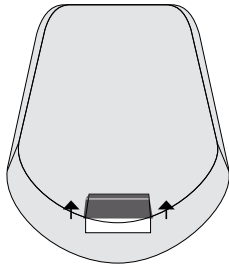
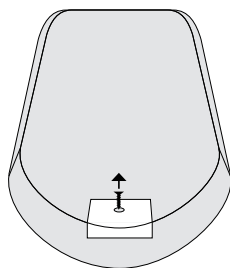
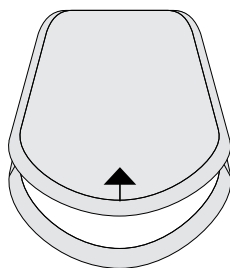

Fig. No. 49
Fig. No. 50
Fig. No. 51
Remove the small blue lid located on the front side of the enclosure by pulling the lid up. (see Fig. No. 49).
Unscrew the front side of the enclosure (see Fig. No. 50).
Detach the front side of the enclosure by pulling the front side up (see Fig. No. 51).
4. Close EWS2 enclosure (see Fig. No. 51, Fig. No. 50, Fig. No. 49)